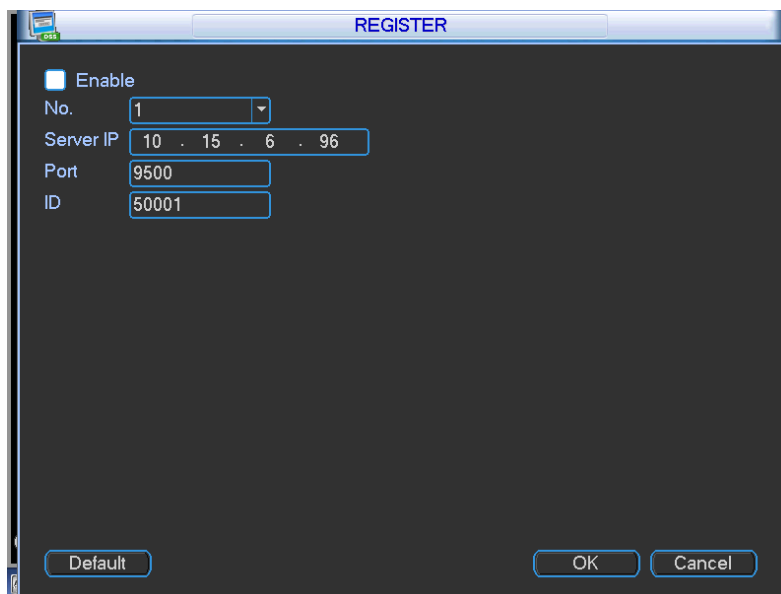

Figure 4-26
1) The setup interface is shown as in Figure 4-26.
3) Now you can add device. Please do not input default port number such as the TCP port in the mapping port number. The device ID here shall be the same with the ID you input in Figure 4-26. Click Add button to complete the setup.